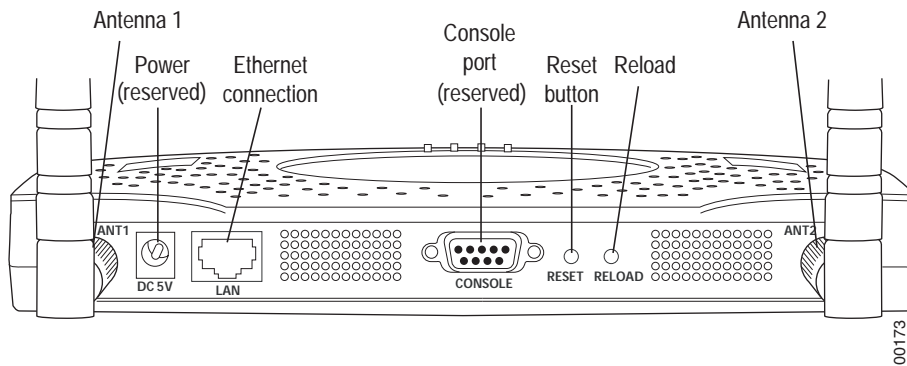

Figure 34: AP150 Connector Panel
3. Connect one end of the PoE 100BaseT Ethernet cable to the 100/1000 Ethernet connector, shown in Figure 34.
8. Connect one end of the PoE 100BaseT Ethernet cable to the 100/1000 Ethernet connector, shown in Figure 34.
10. Connect one end of the PoE 100BaseT Ethernet cable to the 100/1000 Ethernet connector, shown in Figure 34.
11. Connect one end of the PoE 100BaseT Ethernet cable to the 100/1000 Ethernet connector, shown in (see Figure 34).